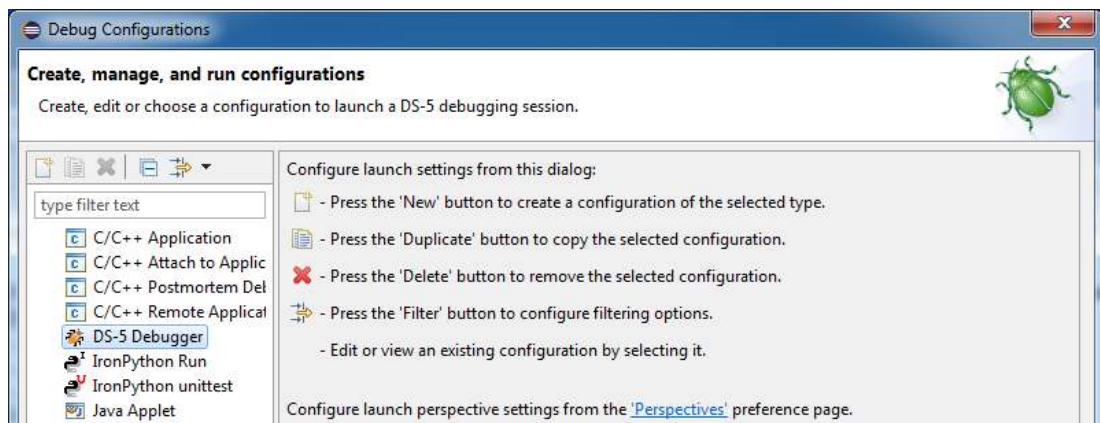

Figure 10 - Debug Configurations
1. Go to Run → Debug Configurations and select DS-5 Debugger as shown in Figure 10.